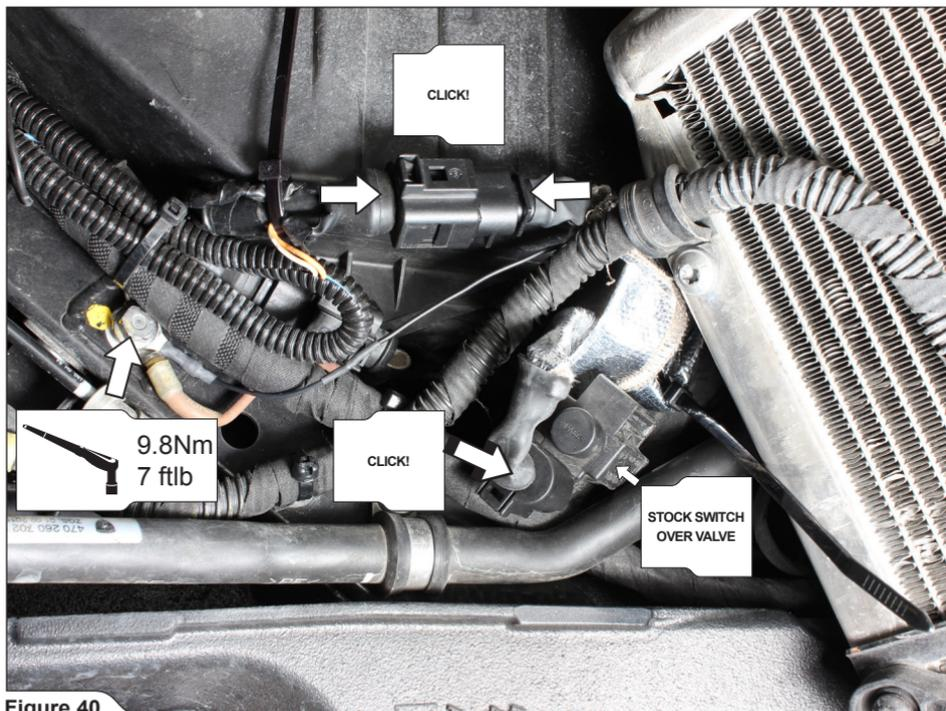

Figure 40
15. **Installation of Wireless Kit:** connect the Akrapovič wiring harness to the switch over valve and switch over valve's connector and tighten the ground wire to the chassis. Secure all wires and connectors using tie wraps from Akrapovič installation kit (**Figure 40**).